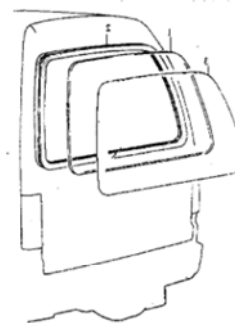

Fig. 4.5-3
1. Rear windshield structure is as shown in Fig. 4.5-3.